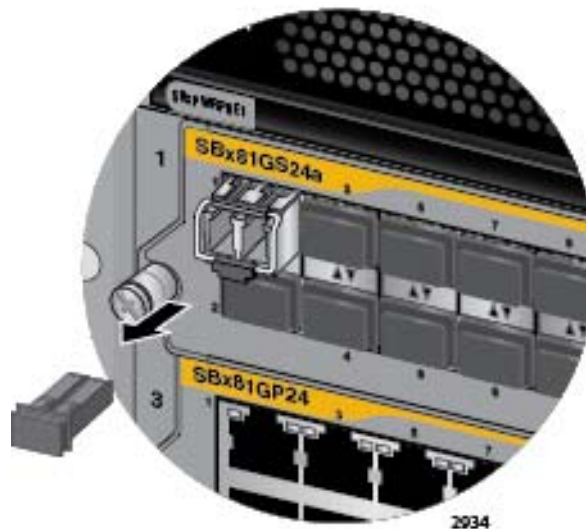

Figure 78. Removing the Dust Cover from the SFP Transceiver in the AT-SBx81GS24a Line Card
- Remove the protective cover from the SFP transceiver, as shown in Figure 78 on page 140.